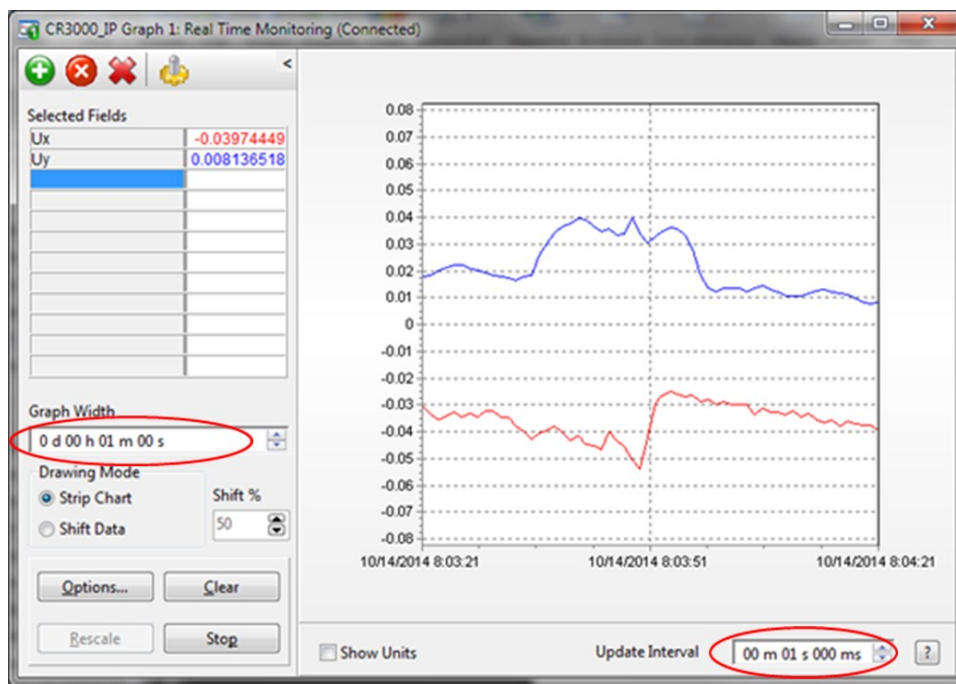

FIGURE 8-4. CSAT3BH real-time data with 1 sec update and u_x and u_y wind components graphed
- a. On the first graph, add the u_x and u_y wind components and set the y limits from -0.08 to 0.08 as shown in FIGURE 8-4 (p. 87).